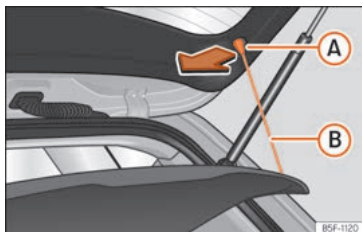

Fig. 171 In the boot: removing and installing the shelf.
- Detach the cord loops » » Fig. 171 (B) from their hooks (A).
- Hook the loops » » Fig. 171 (B) to the rear lid » » ⚠